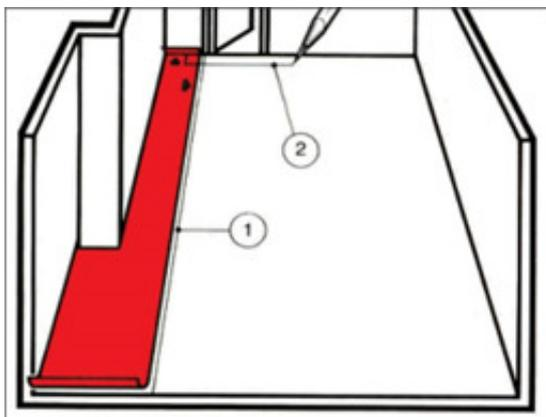

**Fig 5.**
- Cut along the line made by the long scribe, remove the off-cut and place the sheeting hard against the wall. **Refer to Fig 5.**